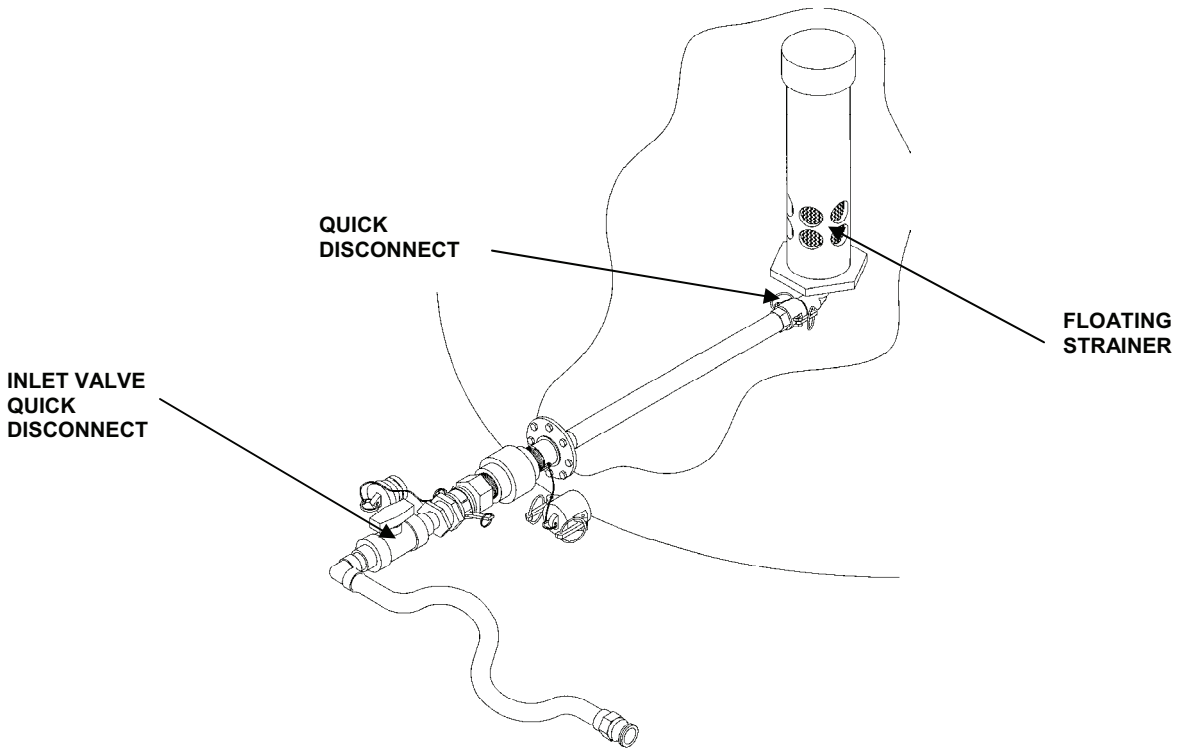

Figure 6. Settling Tank Strainer.
15. Connect the floating strainer to the hose that is inside the tank. See Figure 6.